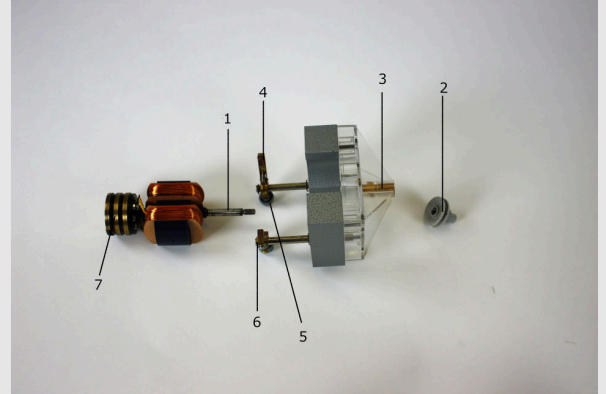

Fig. 1
- Assemble the motor attachment as shown in Fig. 1.